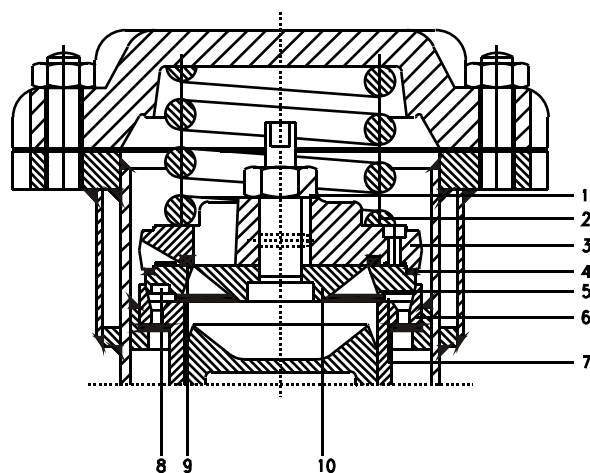

Fig. 2 : Valve Mechanism
- 2.4.1. The suction and delivery valves (see fig.2) are of the ring type and of special cast iron. Their design ensures ample gas passage with a minimum lift. The suction valve ring is held on the valve seat by a series of light springs. The suction stroke limiter is centered in the cylinder jacket and is provided at the top with a centering edge for the stroke limiter of the delivery valve. The delivery valve consists of a stroke limiter, a valve seat, two wavy springs and one valve ring. The whole being assembled by the centre bolt with nut. Both the stroke limiters are fixed together by means of two socket head cap screws.
3.2.3. This arrangement, however, only allows the passage of comparatively small quantities of wet refrigerant through the compressor without causing consequential damage. When large quantities of liquid are drawn into the cylinders the delivery valve assembly and the suction valve stroke limiter (see fig. 2) are lifted to such an extent, that they cannot return to their normal position thus permanently retaining the valves off their seats and minimizing the damage suffered by the compressor.